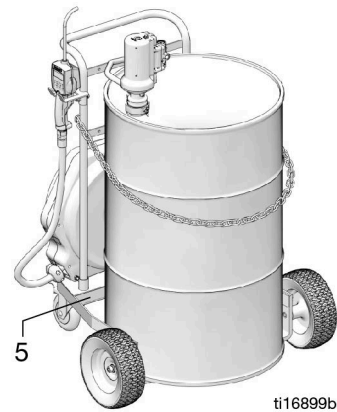

FIG. 34
- Install the drum on the cart base (5) (FIG. 34).